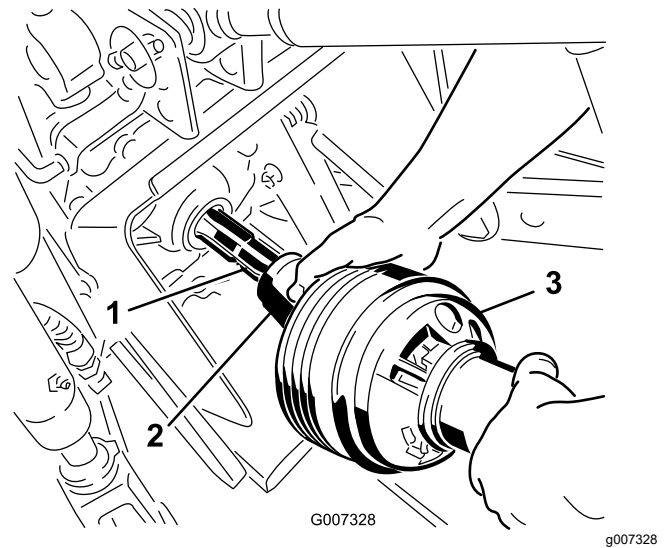

Figure 12
4. Assemble the outer PTO driveshaft section to the traction-unit PTO output shaft (Figure 12).
9. Assemble the outer PTO driveshaft section to the PTO shaft of the traction unit (Figure 12).